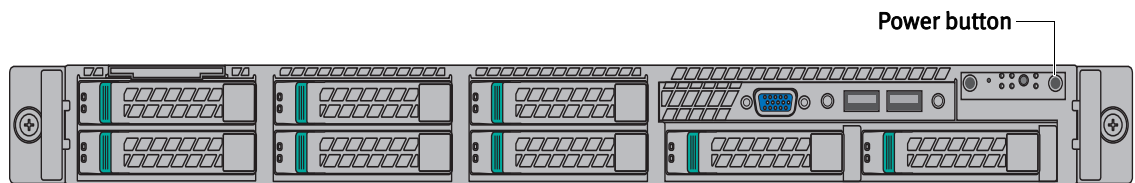

Figure 2 Power button location on Master server
- If the failed server is not accessible through SSH, power it off by pressing the power button on the front of the server for 5 seconds (see Figure 2 below).